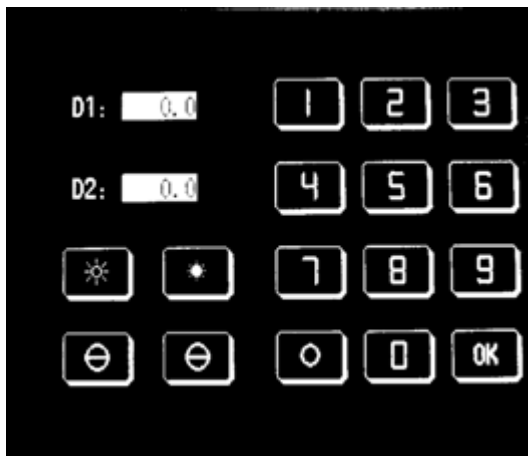

Figure 5-5 Message
7. After the test completes, the system displays as Figure 5-5 and objective 40x return to the working position.